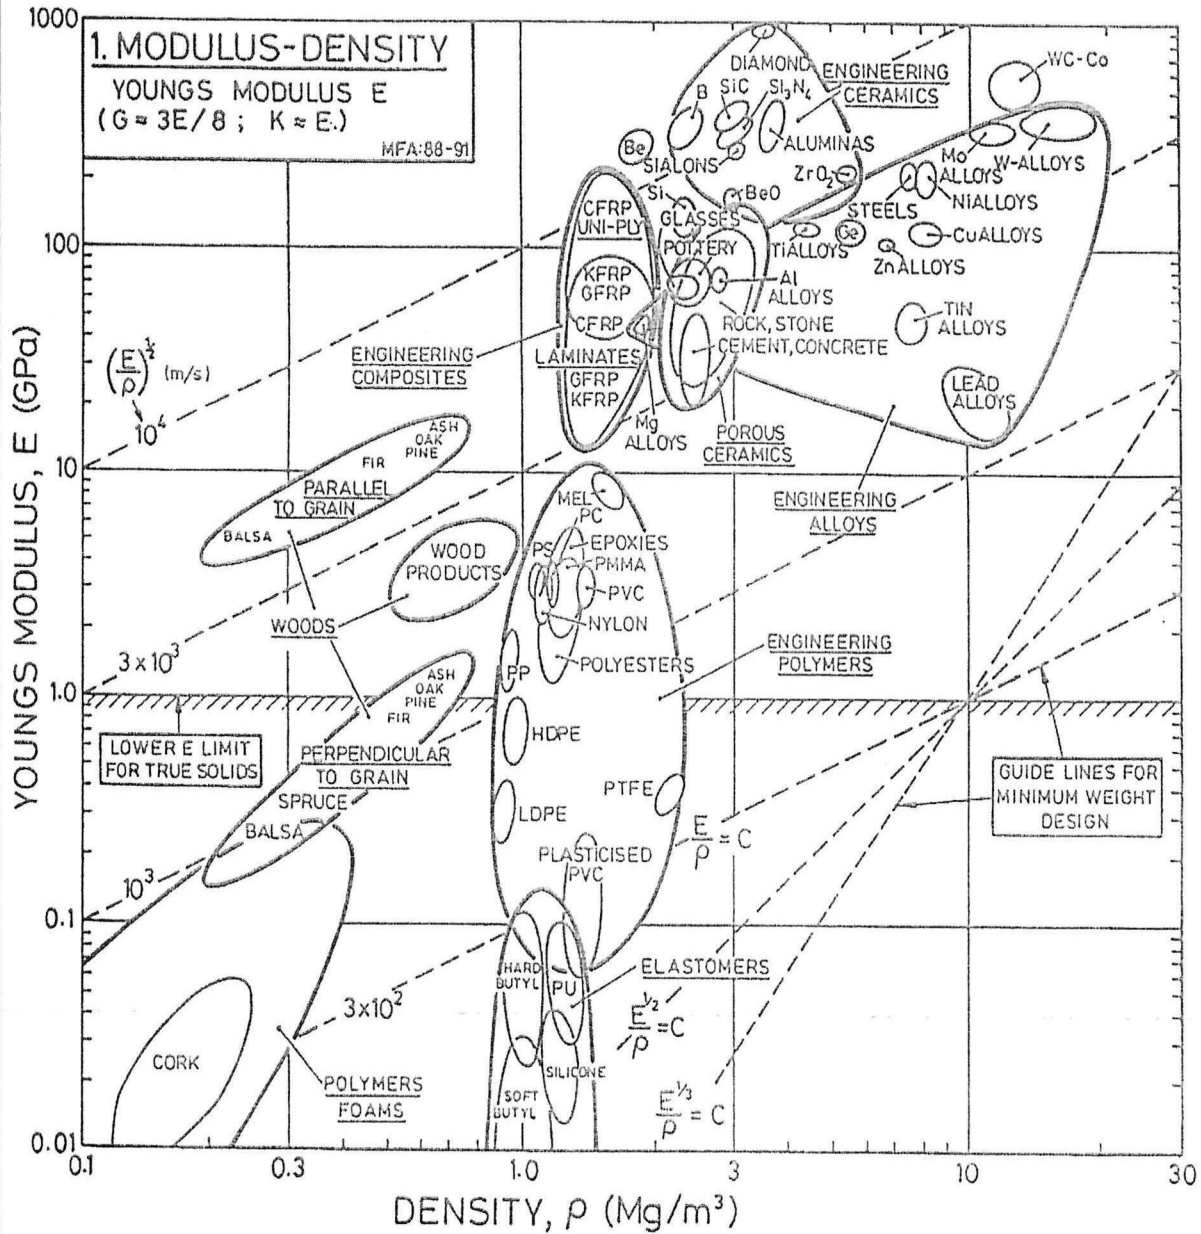

Figure Q1(d)
- (c) A design uses Young's Modulus,  $E > 100 \text{ MPa}^2/\text{GPa}$  and performance index,  $M = \frac{\sigma^2}{E} > 100 \text{ MPa}$ . Identify the selected materials by using **Figure Q1(c)** and attach it with your answer script. (7 marks)
- (iii) If  $M = 2$ , identify the best material for the design. Show your work on **Figure Q1(d)**, and attach it with your answer script. (4 marks)